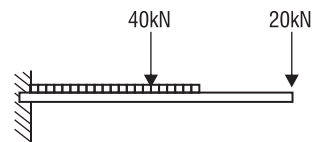

Figure 4.31
- A cantilever 6 m long carries a load of 20 kN at the free end and 40 kN at 2 m from the fixed end. A uniformly distributed load of 10 kN/m covers the first 4 m from the fixed end (**Figure 4.31**). Calculate the reaction. [100 kN]